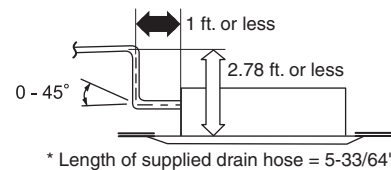

Fig. 3-34
- In cases where it is necessary to raise the height of the drain piping, the drain piping can be raised to a maximum height of 2.78 ft. above the bottom surface of the ceiling. Under no conditions attempt to raise it higher than 2.78 ft. above the bottom surface of the ceiling. Doing so will result in water leakage. (Fig. 3-34)